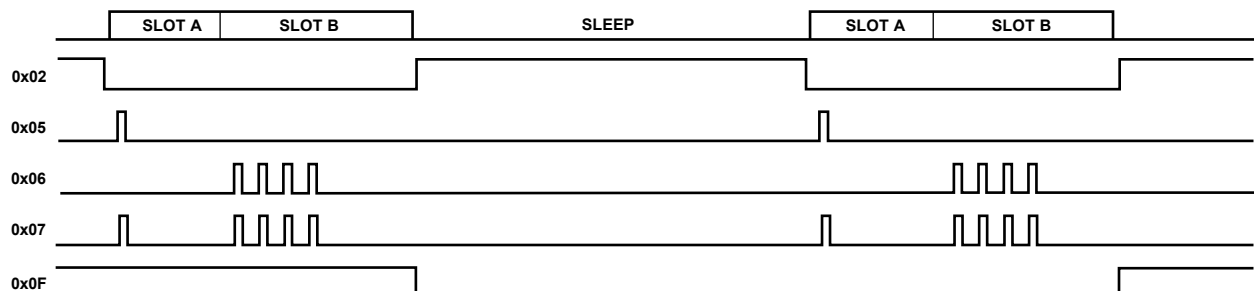
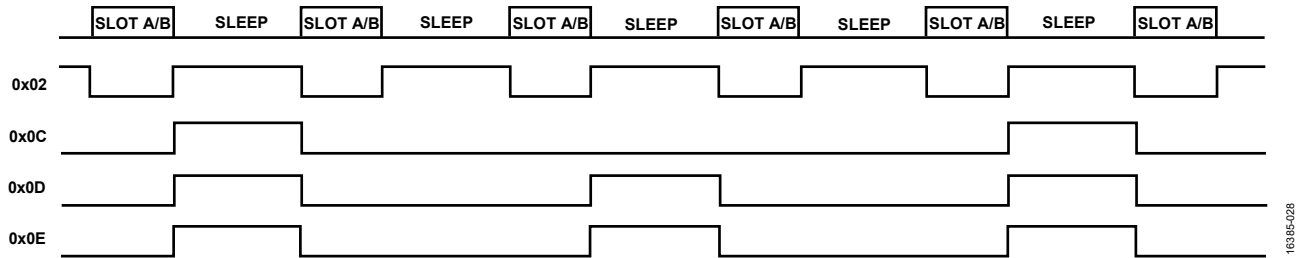

Figure 33. Optional Timing Signals Available on GPIOx—Register 0x0B, Bits[12:8] or Bits[4:0] = 0x02, 0x05, 0x06, 0x07, and 0x0F
Figure 34. Optional Timing Signals Available on GPIOx—Register 0x0B, Bits[12:8] or Bits[4:0] = 0x02, 0x0C, 0x0D, and 0x0E
The various available timing signals are controlled by the settings in Register 0x0B. Bits[12:8] of this register control the timing signals available on GPIO1, and Bits[4:0] control the timing signals available on GPIO0. All of the timing signals described in this data sheet are available on either (or both) of the GPIO0 and GPIO1 pins. Timing diagrams are shown in Figure 33 and Figure 34. The time slot settings used to generate the timing diagrams are described in Table 17.
**Table 17. ADPD188BI Settings Used for the Timing Diagrams Shown in Figure 33 and Figure 34**